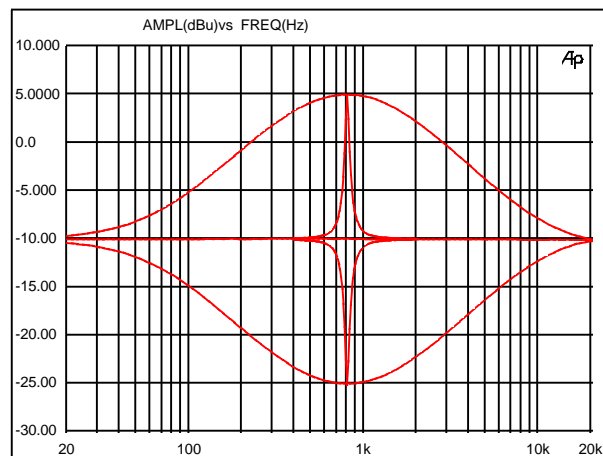

Figure 14 Limits of EQ Width
9.4 EQ Bandwidth 0.05 to 3.00 Octaves in 0.05 Octave steps. Width is only available for Bell type EQs. The limits of the width are shown in Figure 14.